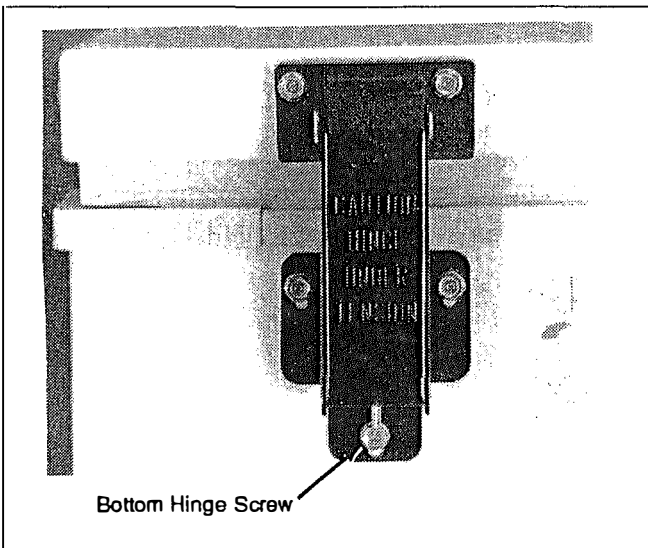

Figure B13 - Compact Chest Lid Removal
1. Open the lid and remove the bottom hinge mounting screw. See Figure B13.
2. Close the lid, and while holding in on the bottom of the hinge, remove the remaining two hinge mounting screws. See Figure B13.